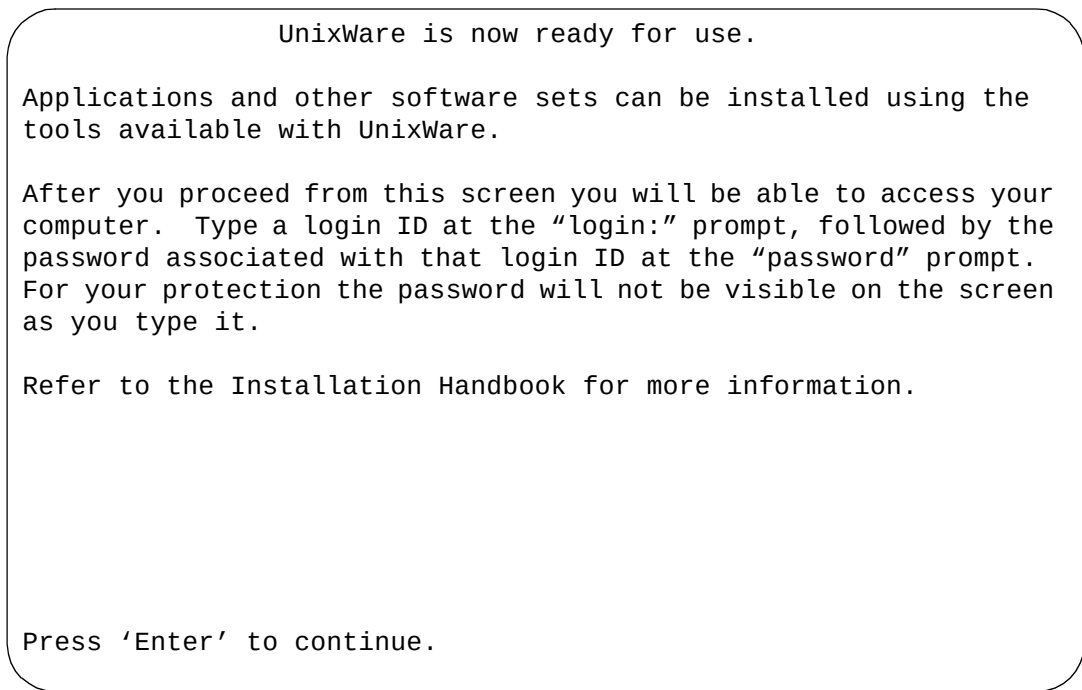

Figure 9-38. UnixWare Installation Complete Screen
The system displays the UnixWare Installation Complete screen (Figure 9-38).
1. Starting at the UnixWare Installation Complete screen (Figure 9-38), press **(ALT) (E)**.